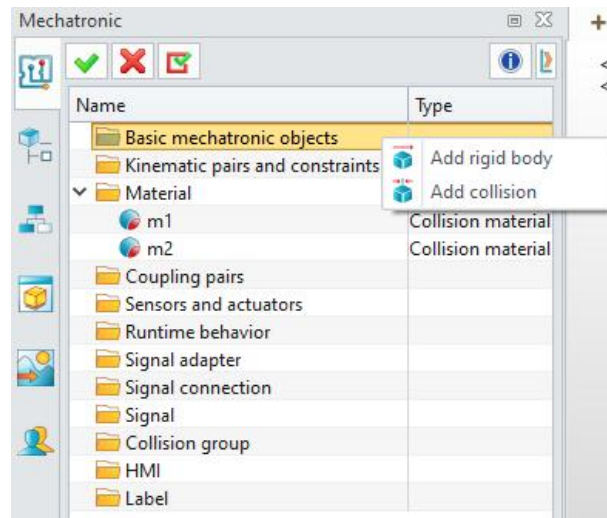

Figure 5-9: Add Rigid Body
- Right-click on "Basic mechatronic Object", and select "Add Rigid Body". (Figure 5-9)